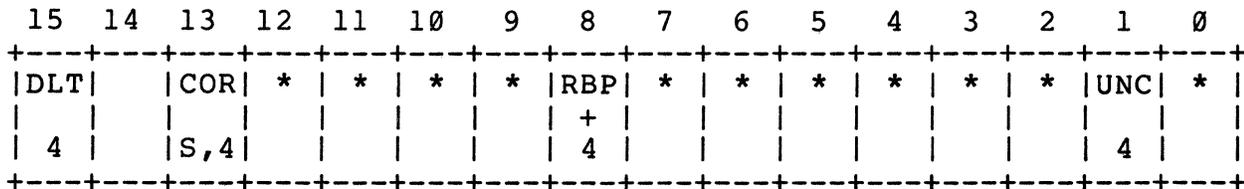

Figure 3-10 XST1 Register Format
3.3.2.6 Extended Status Register 1 (XST1) -- Extended Status Register 1 (XST1) appears as the fifth word in the Message Buffer stored by the TSV05 upon completion of a command or on an Attention (ATTN). Figure 3-10 illustrates the register format and Table 3-8 describes each bit.